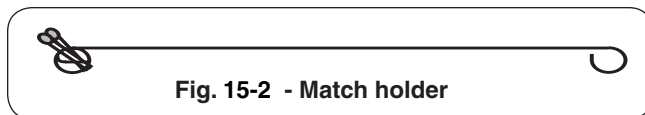

Fig. 15-2 - Match holder
2. Insert either a burning long-barrel butane lighter, a burning long-stem match, or a burning match held by a wire extension holder (Fig. 15-2) through the cooking grids to the burner (Fig. 15-3). For backburners, hold the flame against the perforated material of the backburner. For sideburners, hold the flame against the burner.